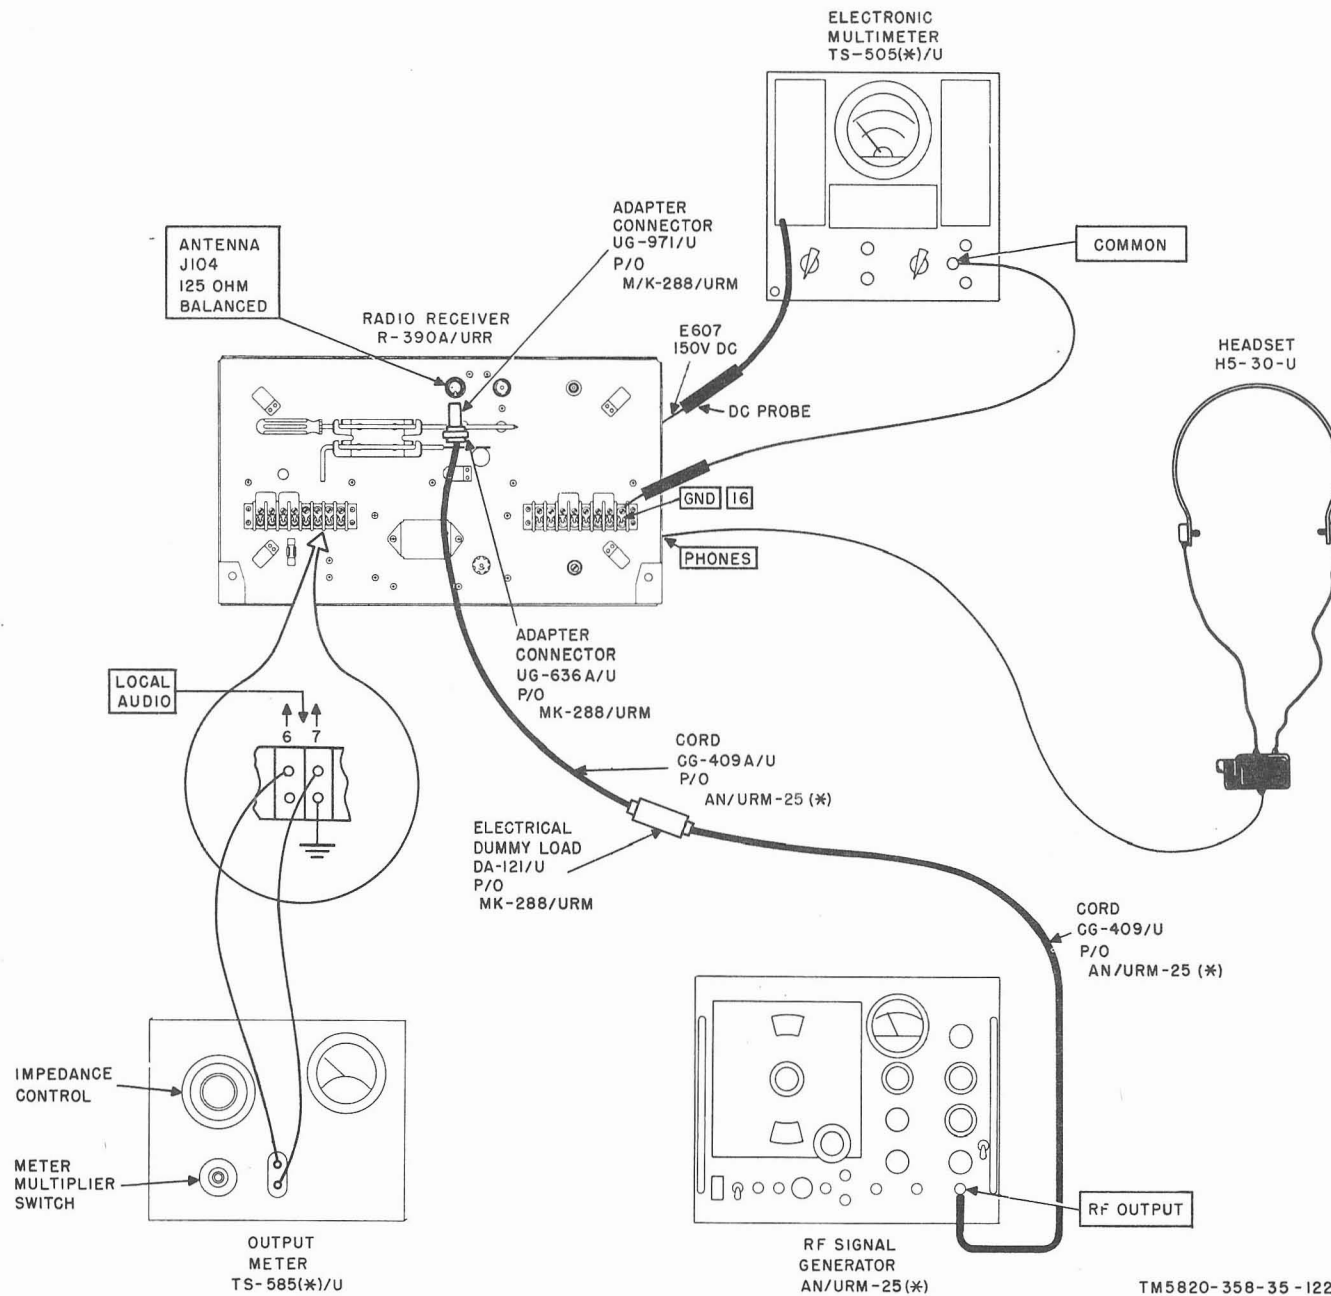

Figure 77. Sensitivity test setup.
(fig. 77)
- b. *Test Connections and Conditions.* Connect the equipment as shown in figure 77. Do not connect the TS-505(*)/U until instructed to do so in the *Test procedure* column.